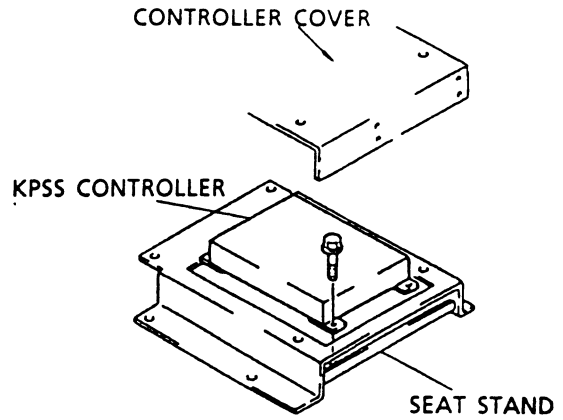

Fig. 5 KPSS controller and seat stand
- 2) Remove the operator seat and controller cover fixed to the seat stand. (Fig. 5.)
4) Remove cap (2) of the controller. After confirming that the engine key is "OFF", put your finger into the hole in the rubber cap, push the adjust switch (3) in the controller toward test.
5) Set the adjustment start condition (1).